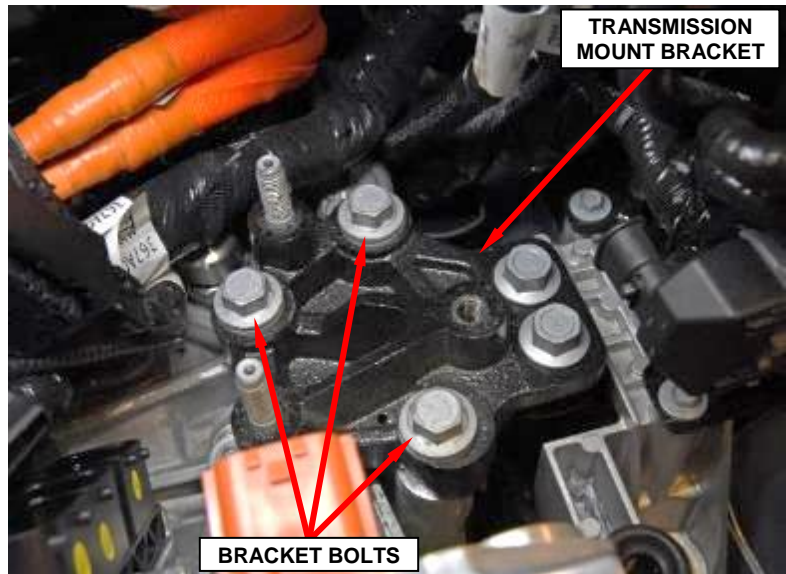

Figure 35 – Left Side Transmission Mount Bracket
62. Remove three bolts from the left side transmission mount bracket (Figure 35).
3. Using the floor jack, raise the transmission and install the three bolts to the LH engine (transmission) mount bracket. Tighten the bolts to 105 N·m (77 Ft. Lbs.) (Figure 35). Remove the floor jack from the vehicle.